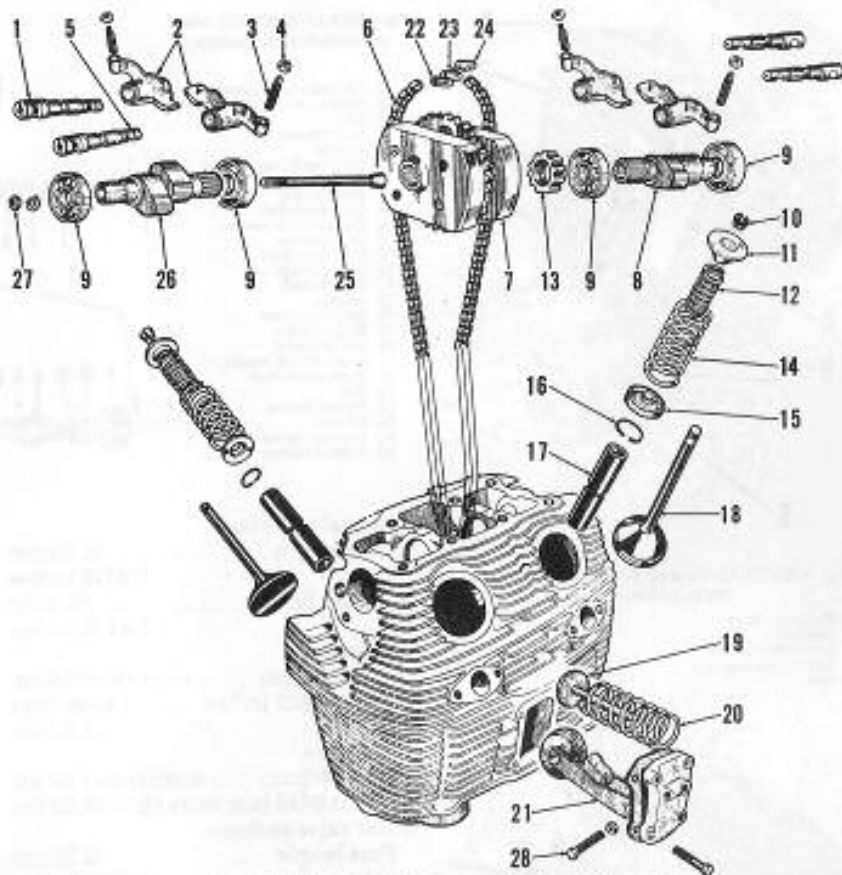
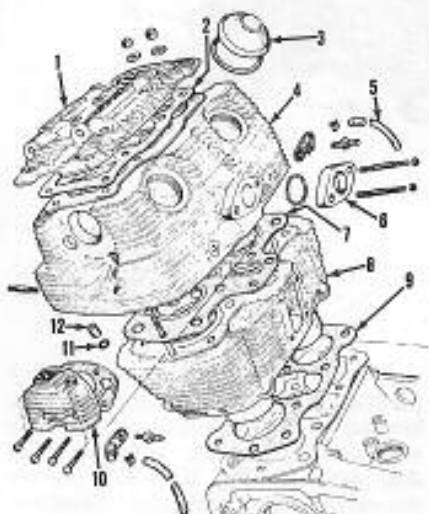

Fig. HN8-20—Exploded view showing camshaft and valve system.
Fig. HN8-22—Exploded view of cylinder, cylinder head and related parts.
**CYLINDER HEAD, CAMSHAFT AND VALVES.** The overhead camshaft assembly is supported in the cylinder head in four ball bearings. Refer to Fig. HN8-20 for exploded view of the cylinder head assembly.
then be removed. Remove the breaker point cover (1—Fig. HN8-4 or HN8-6), breaker plate (8) and right cylinder side plate (7). Remove the left cylinder side plate (10—Fig. HN8-22). Remove the valve covers, loosen the locknuts (4—Fig. HN8-20) and back-off adjusting screws (3). The rocker arm shafts (1 and 5) and rocker arms (2) can then be removed. Loosen locknut (13) on right side of the sprocket assembly (7) and drive the right camshaft (8), bearings (9) and distributor shaft (5—Fig. HN8-4 or HN8-6) assembly from cylinder head. Loosen the hex nut (27—Fig. HN8-20) from outer end of left camshaft (26), tap end of lock bolt (25) until bolt is loose and drive the left camshaft, bearings and lock bolt from cylinder head. Lift out the sprocket assembly (7).
holding the timing chain, turn engine until timing mark "T" on generator rotor is aligned with pointer (P—Fig. HN8-7) on generator stator. With ends of timing chain even, install cylinder head assembly threading timing chain through cylinder head, using wires previously attached to chain. Turn camshaft until punch marked tooth of sprocket (mark is on right face of sprocket) is aligned with centerline of cylinder head; then, reinstall master link in timing chain. Note: Be sure that closed end of clip (22—Fig. HN8-20) is towards direction of chain travel.
Cut-outs in rocker arm shafts (1 & 5—Fig. HN8-20) should be aligned with cylinder stud holes in cylinder head. Inlet rocker arm shafts (5) are larger than exhaust (1). Cylinder head cover nuts should be tightened in sequence shown in Fig. HN8-23 to 14-16 Ft.-Lbs. of torque. Adjust valve clearance and camshaft drive chain tension as described in previous section.